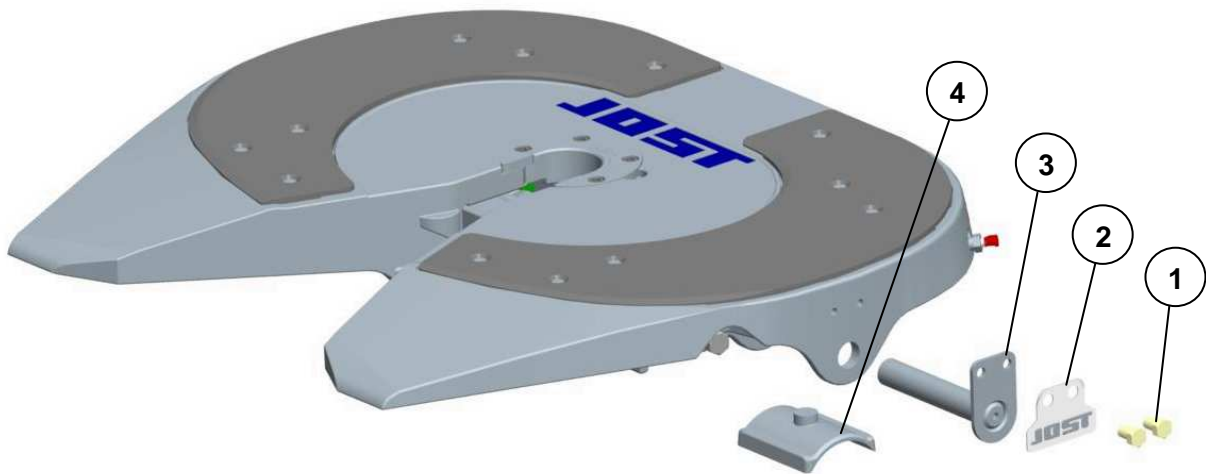

FIGURE 2
2. Remove the bracket pins (item 3).
3. Inspect the top of the bracket cap and grind off any high or rough spots (see figure 2).